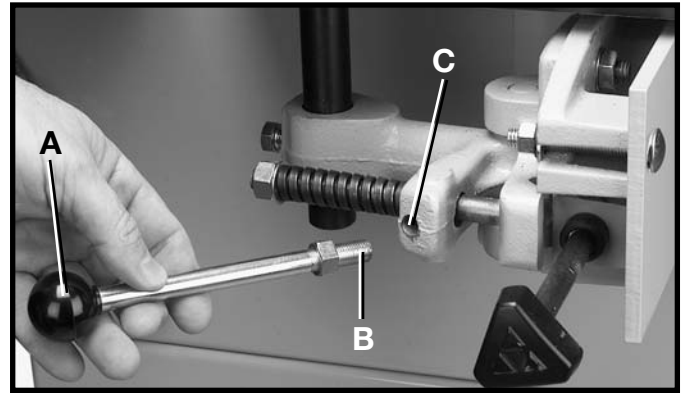

Fig. 7
Assemble the belt tension lever (A) Fig. 7, to the tensioning mechanism by threading the end of lever (B) into the tapped hole (C) and tighten lock nut.